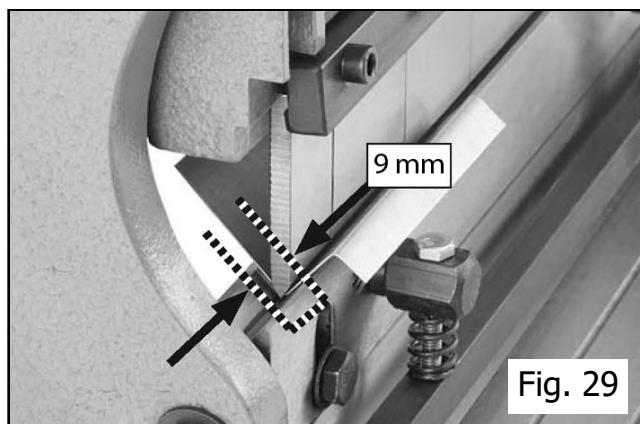

Fig. 29
4. If a reverse bend is required, reinstall the workpiece upside-down, as shown in Figure 29, and repeat Steps 2-3. The minimum reverse bend possible is 9 mm.